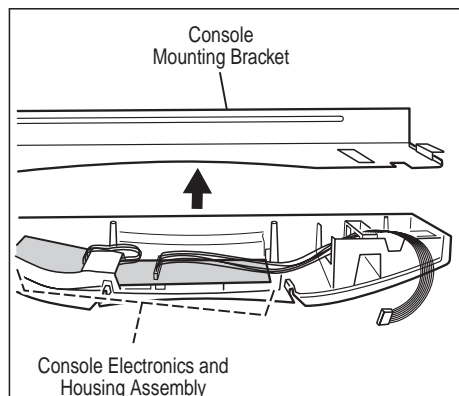

Figure 18. Remove mounting bracket and locate electronics assembly.
2. Remove the screws that fasten the console mounting bracket onto the assembly. Lift up and remove the bracket to locate the electronics assembly. See figure 18.